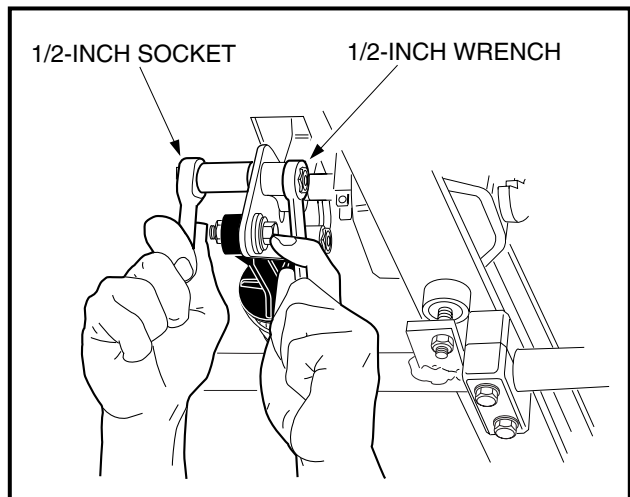
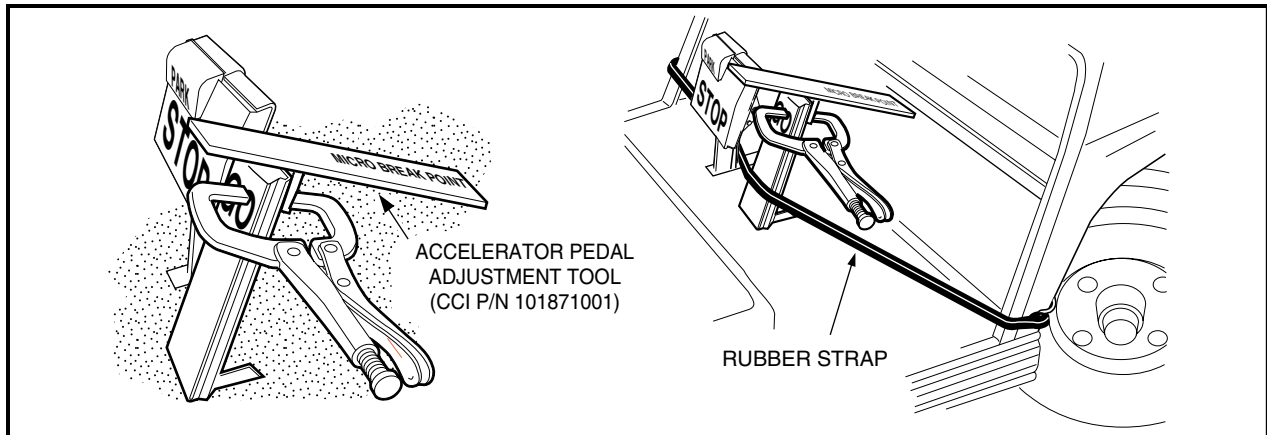

Figure 5-28 Accelerator Pedal Height Adjustment
Figure 5-29 Accelerator Pedal Height Adjustment
- 4.1. Loosen the nut and bolt (**Figure 5-28, Page 5-18**) securing the accelerator pedal to the pivot plate. Clamp the accelerator pedal adjustment tool (CCI P/N 101871001) to the accelerator pedal, with the end marked *accelerator pedal height* closest to the floorboard. Press the accelerator pedal until the end of the tool rests against the floorboard; pedal height should be 5-5/8 inches (14.3 cm). Use a rubber strap to hold pedal in position against the floorboard and then tighten nut to 26 ft-lb (35.3 N·m) (**Figure 5-29, Page 5-19**).